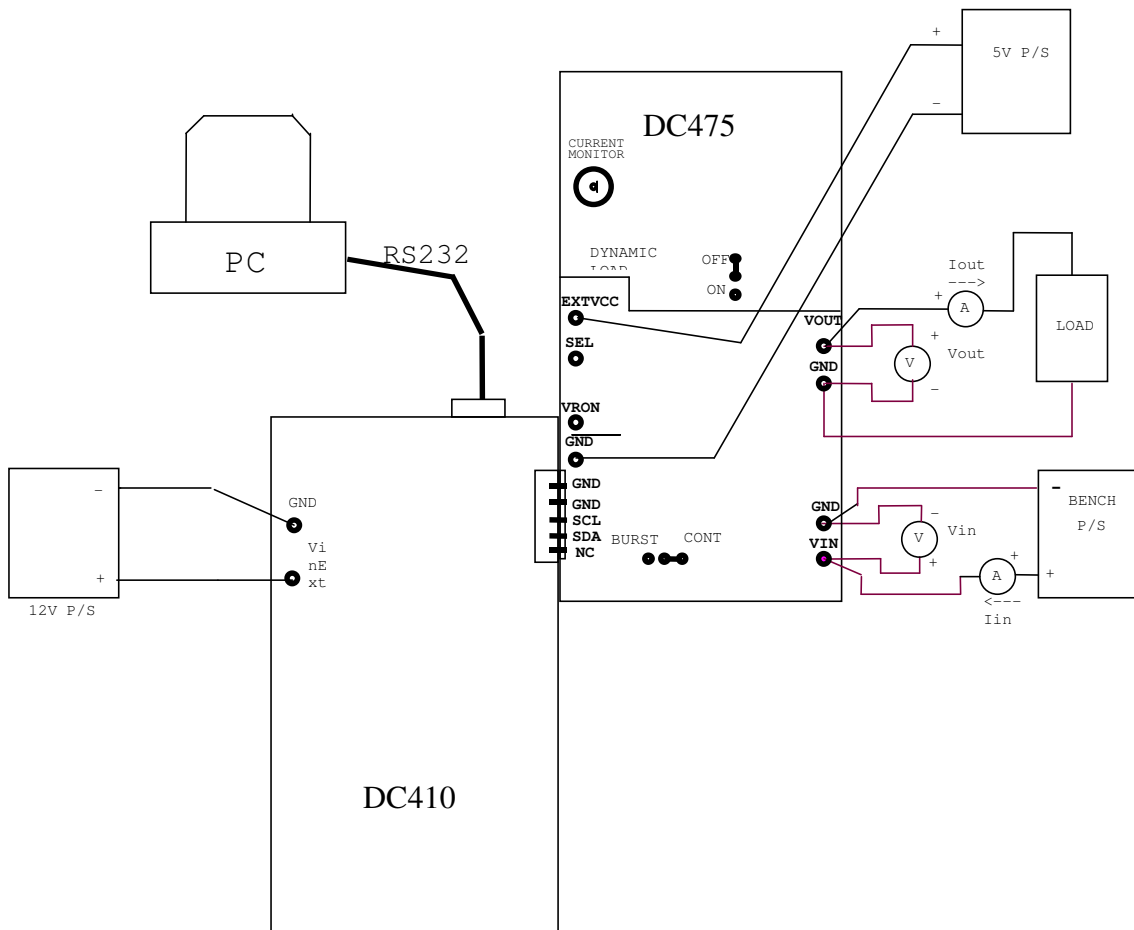

Figure 1. Proper Measurement Equipment Setup
Demonstration circuit 475 is easy to set up to evaluate the performance of the LTC1909-8. Refer to Figure 1 for proper measurement equipment setup and follow the procedure below:
2. Refer to Figure 1 for the required equipment and the proper way to connect the test equipment. JP2 should be in the OFF position initially.